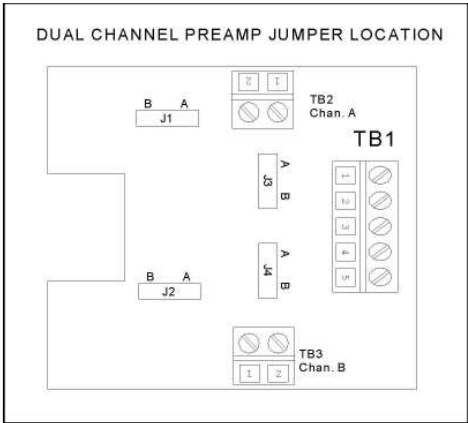

Figure 9-1 Wiring Connections
- 3. Connect the instrument wiring, refer to Figures 9-1 and 9-2. Cable entry into the electrical enclosure is by two 3/4-14 NPT female threads.
If the instrument is being installed with additional accessories, the instructions for those accessories should be read and understood before continuing with the installation. The output signal from the preamplifier, if one is fitted, can be altered to interface with most electronic accessories. This is accomplished by the use of jumpers on the circuit board. Refer to Figure 9-1 for their configurations.